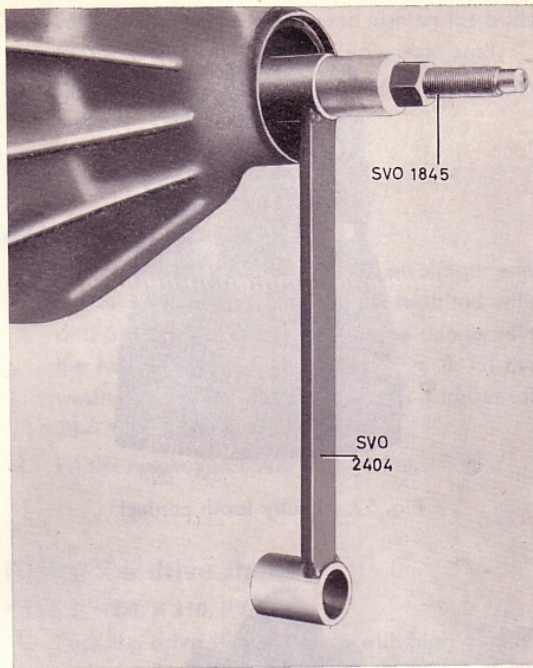

Fig. 48. Fitting the pinion
5. Fit the pinion in the carrier and mount three 0.75 mm (0.30") thick shims and the front pinion bearing. Fit tool SVO 2404 and press tool SVO 1845 on the front end of the pinion and tighten the pinion, see Fig. 48.